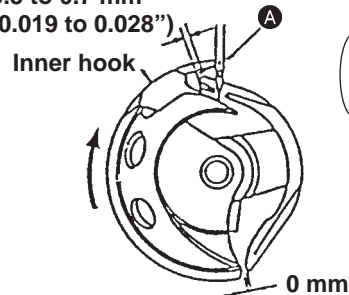

Fig. 2
The center of the needle is aligned with the blade point of inner hook (section A) at the time of step 1) (Fig. 2)
- 6) Clearance provided between the inner hook and the shuttle driver is 0.5 to 0.7 mm. (Fig. 2)
- 2) Loosen setscrew ❶ in the shuttle driver and adjust the direction of rotation and the longitudinal direction.
**(Caution) Be sure to turn the inner hook in the direction of the arrow mark as shown in (Fig. 2) when performing the adjustment of the inner hook timing.**
- 4) Loosen setscrew ❷ in the shuttle and turn eccentric shaft ❸ to adjust the clearance.
- 5) Loosen setscrew ❷ in the shuttle and adjust the clearance. Take care when adjusting the clearance provided between the needle and the blade point of the inner hook of the item 4).
**(Caution) The clearance provided between the inner hook and the shuttle driver in the direction of rotation is 0.5 mm to 0.7 mm as shown in (Fig. 2). Tap section ❹ to adjust the clearance. After performing the adjustment, make sure that the upper and lower clearances of section ❸ in terms of the inner hook are equal.**